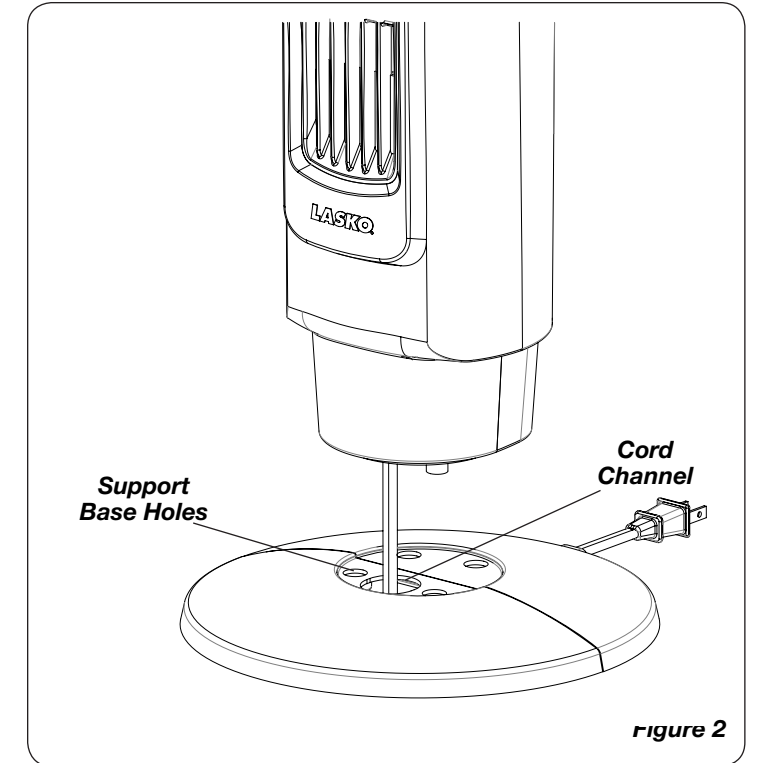

figure 2
3. Pass the Power Supply Cord through the Cord Channel in the center of the Base (Figure 2).